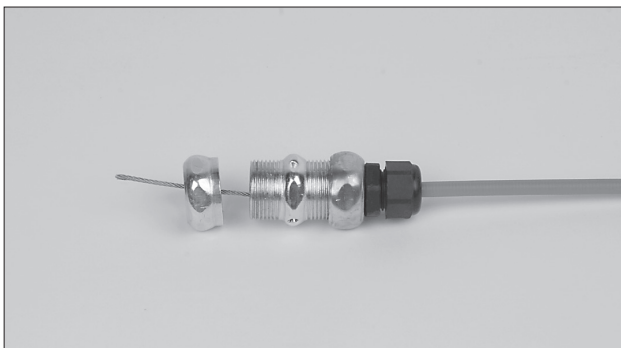

FIGURE 5-102
6. Starting on the opposite end of the compression union, remove the nut. See Figure 5-102.